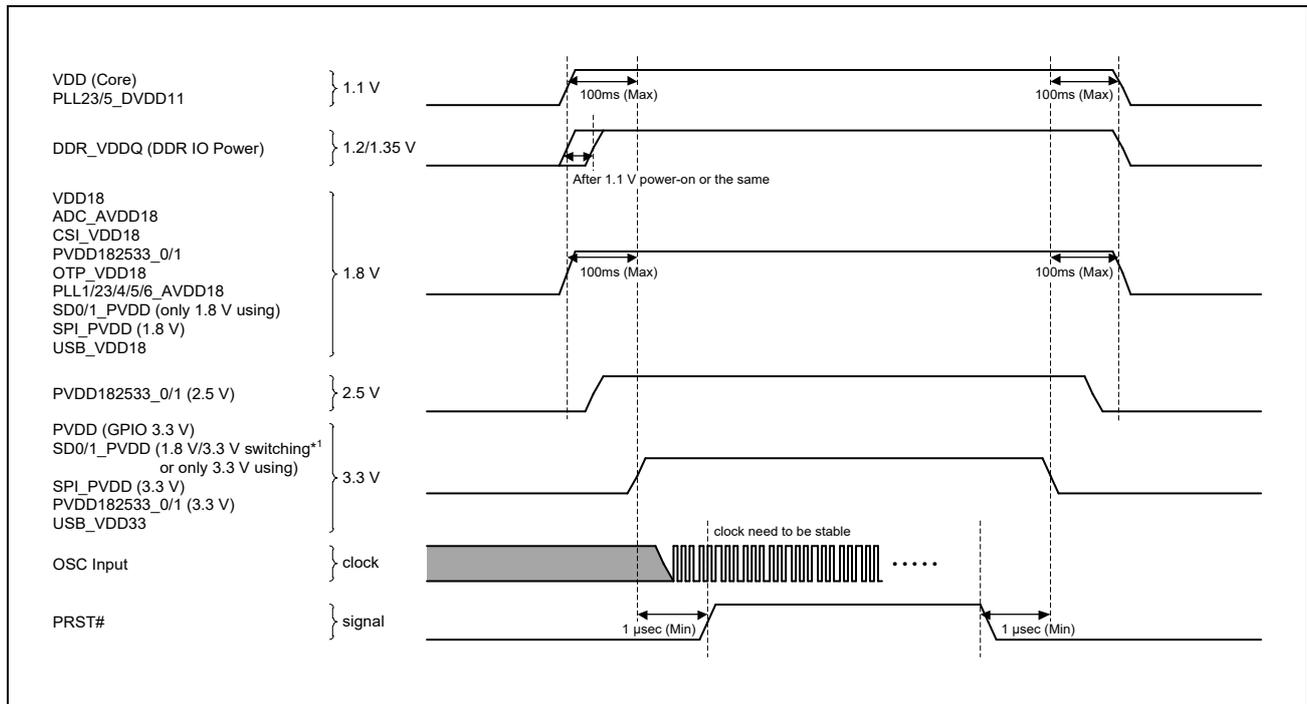

Figure 3.1 Power-On/Power-Off Sequence
*Note 1.* About SD0/1\_PVDD, especially in the case of switching between 1.8 V and 3.3 V at same power rail, 1.8-V power-on/off timing can also follow 3.3-V power rail sequence as shown in the **Figure 3.1**.